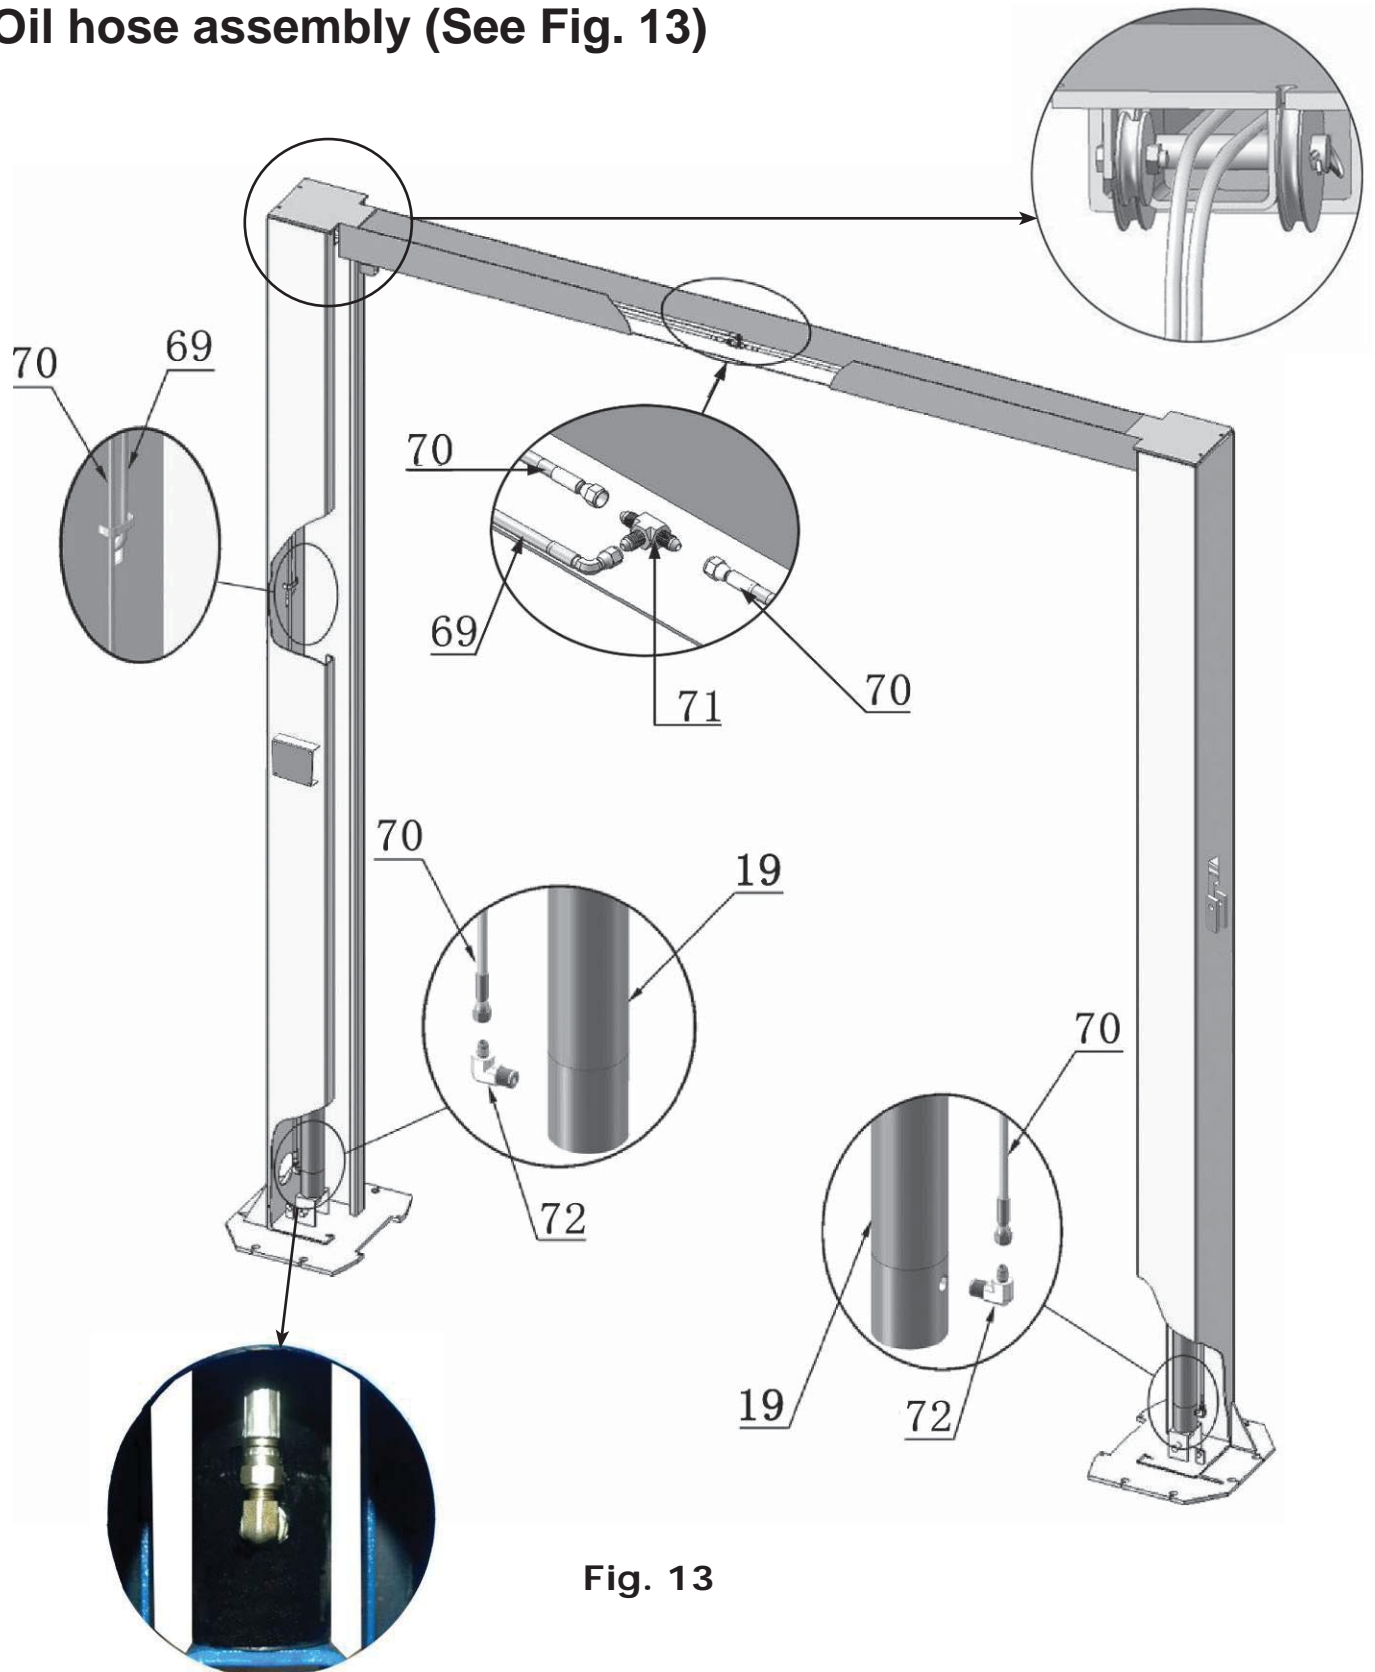

Fig. 13
F. Oil hose assembly (See Fig. 13)